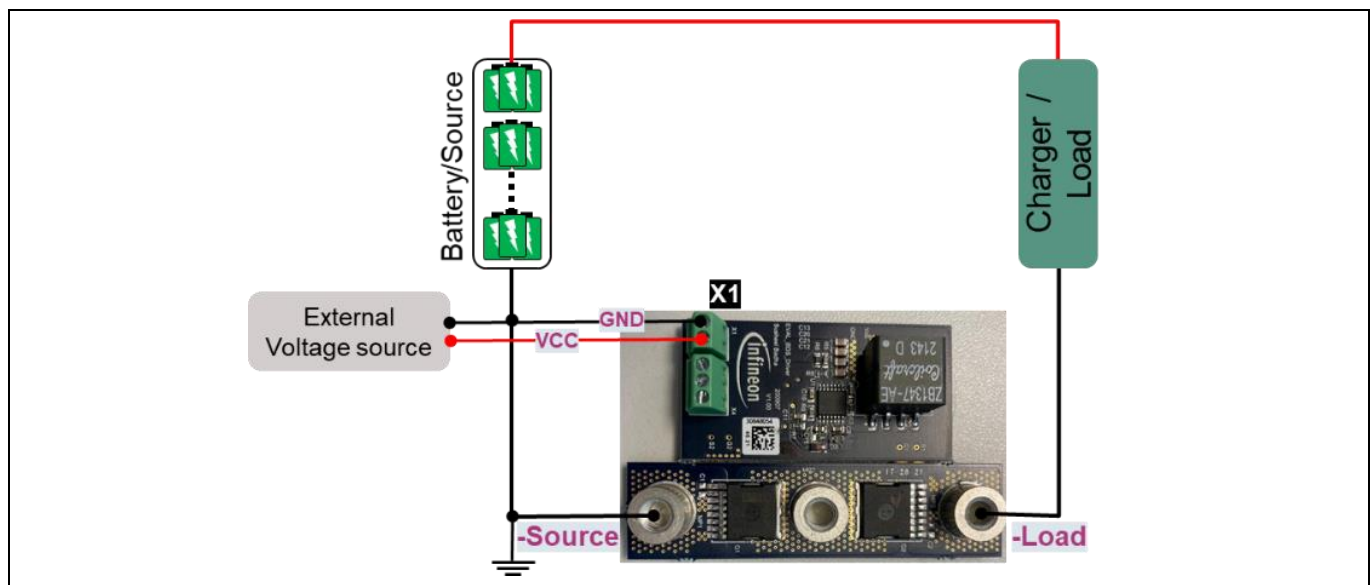

Figure 11 Powering the gate driver board with external source
2. **External power supply:** As shown in Figure 11, an external power supply voltage between 20 to 80 V is used. Connect pin 2 of the X1 connector on the gate driver board with the positive terminal of the external power supply and pin 1 to the ground of the external power supply. Additionally, connect the external power supply's ground with the battery's negative terminal.